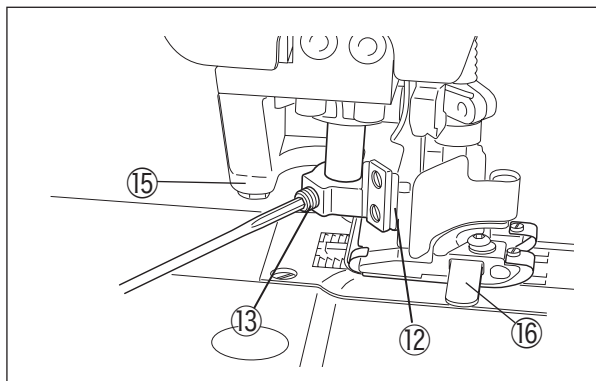

Fig. 6-48
- (2) Turn the handwheel to raise the needle. Bring back the presser foot ⑫ original position, and tighten the screw ⑬ while pressing the presser foot ⑫ against the presser foot guide (right) ⑭ . (Fig. 6-48)